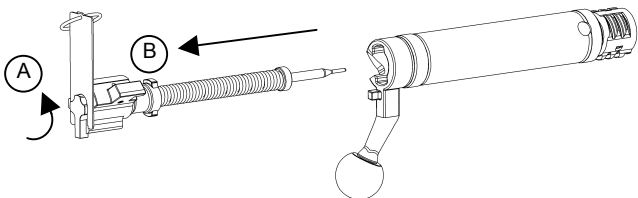

Figure 24.
5. Rotate the cocking piece shroud counter clockwise about 120 degrees, or 1/3 of a turn (Figure 24, Step A.) and withdraw cocking piece (Figure 24, Step B.) from the bolt carrier.